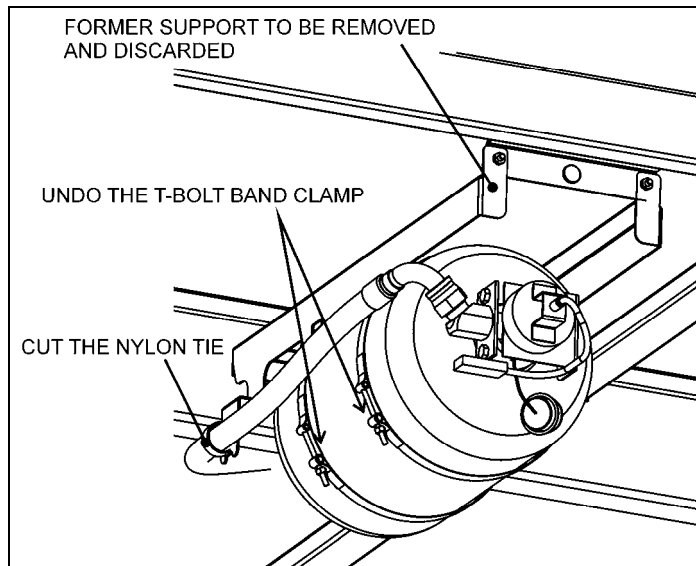

FIGURE 25
- 29) Cut the nylon tie that fixes the extinguisher bottle hose to the support. **Use caution, the extinguisher bottle weighs 46 lbs.** Undo the two t-bolt band clamps (see figure 25). Rest the extinguisher bottle on the jack stands.